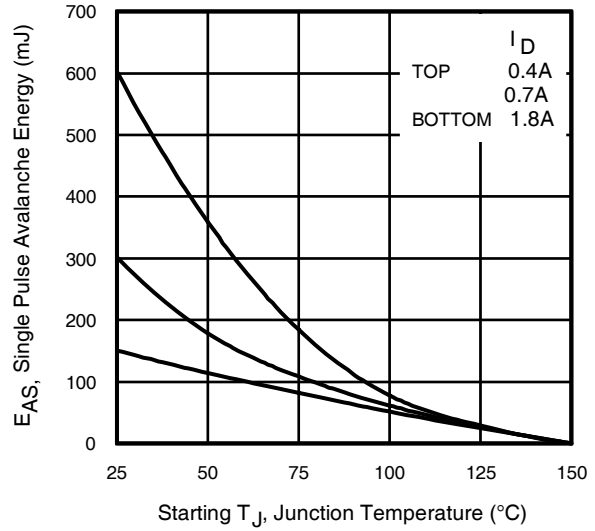

Fig 13. Maximum Avalanche Energy vs. Drain Current
- ② Starting $T_J = 25^\circ\text{C}$, $L = 93\text{mH}$, $R_G = 25\Omega$, $I_{AS} = 1.8A$. (See Figure 13).
- ③ $I_{SD} = 3.6A$, $di/dt \leq 520A/\mu\text{s}$, $V_{DD}V_{(BR)DSS}$, $T_J \leq 150^\circ\text{C}$.
④ Pulse width $\leq 300\mu\text{s}$; duty cycle $\leq 2\%$.
⑤ $C_{oss\text{ eff.}}$ is a fixed capacitance that gives the same charging time as C_{oss} while V_{DS} is rising from 0 to 80% V_{DSS} .